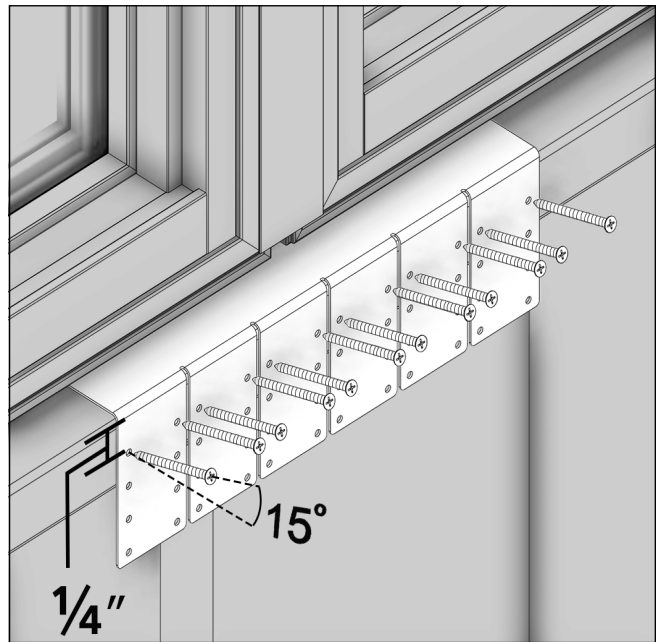

Figure 42
15. Bend gussets against wood framing as shown in Figure 42. Attach the gusset with twelve #8 x 1-5/8" screws. Make sure that the screws are no more than 1/4" from the bend in the bracket (edge of wood buck). Angle the screws approximately 15 degrees toward the thicker part of the framing member. *NOTE: It may be necessary to drill two 5/32" holes in the bracket.*